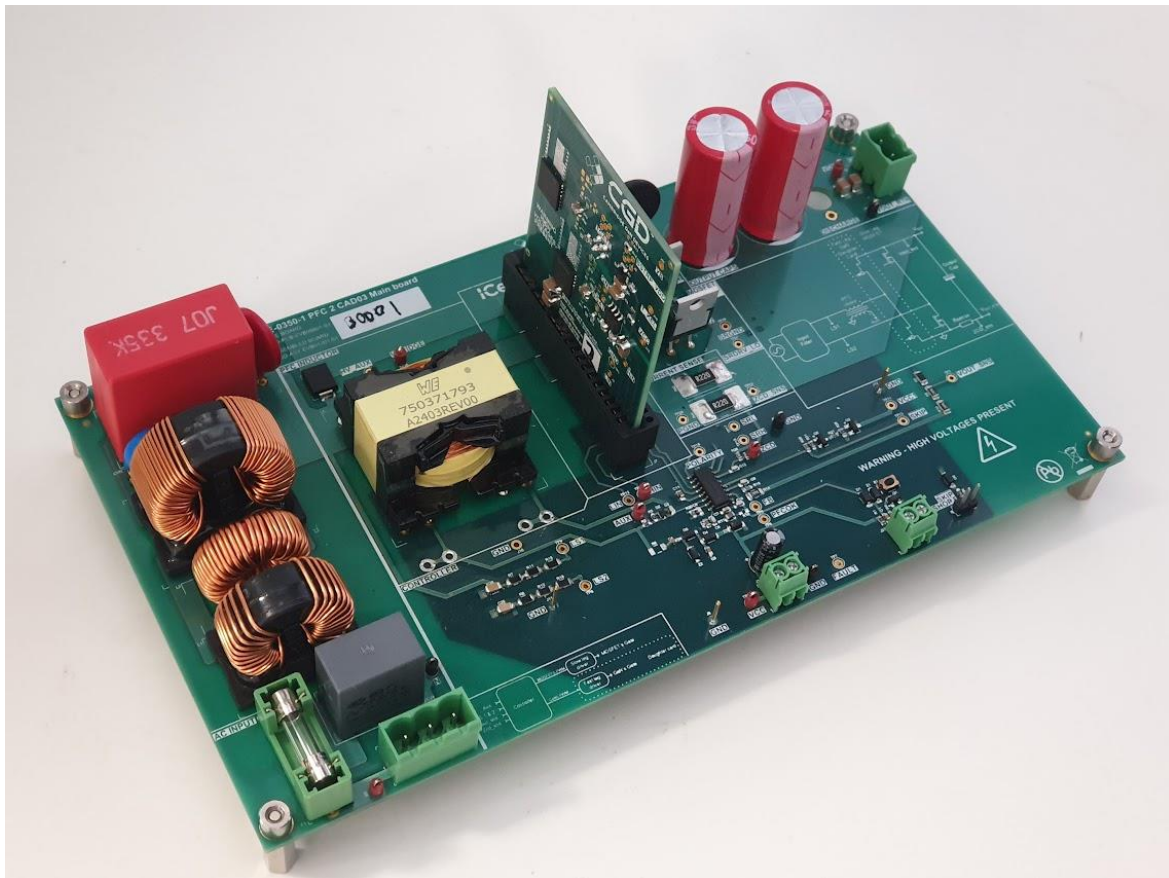

Figure 2 – 350 W TPPFC EVB. Daughterboard inserted in the mainboard in the correct position
1. J7 - The daughterboard must be inserted in J7 in the correct position shown in Figure 2.